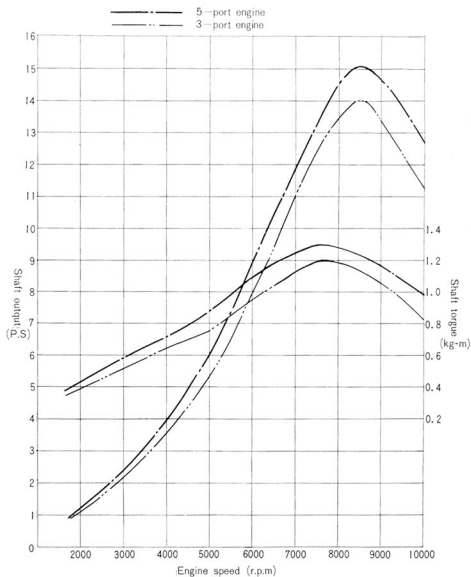

Fig. 3-3-1
The results of a comparison of the 5-port cylinder and a conventional 3-port cylinder by using the AS₁(C) are given in Fig. 3-3-1.